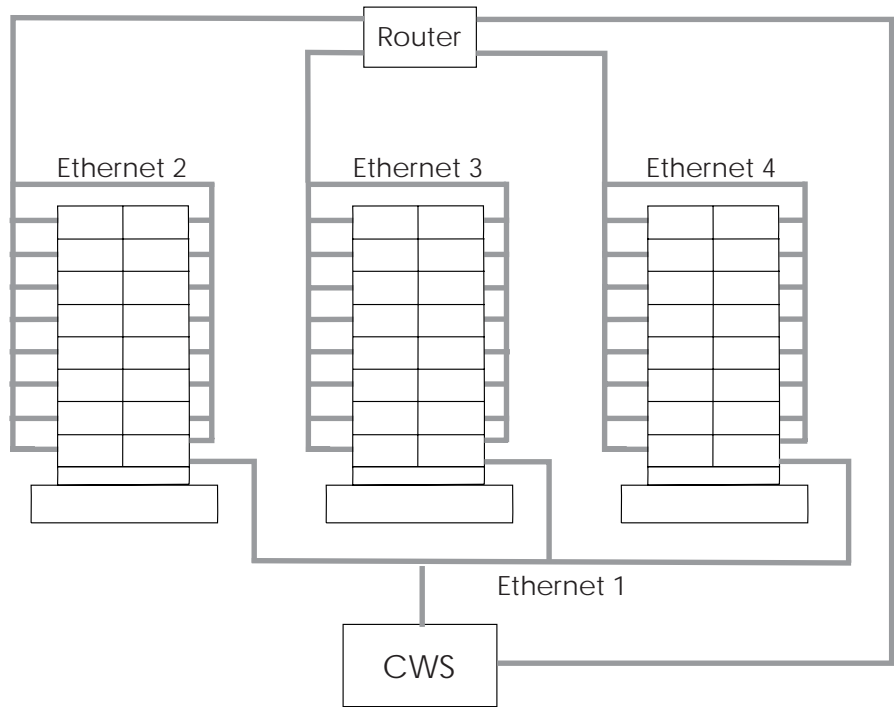

Figure 8. Method 3 Ethernet topology for a multiple-frame SP
3. A third method adds an external router to the topology of the previous approach. This router is made part of each of the frame Ethernets, so that traffic to the outside need not go through the control workstation. If the control workstation may also be attached externally, providing another route between nodes and the control workstation. Figure 8 on page 69 shows this Ethernet topology for such a multiple-frame system.